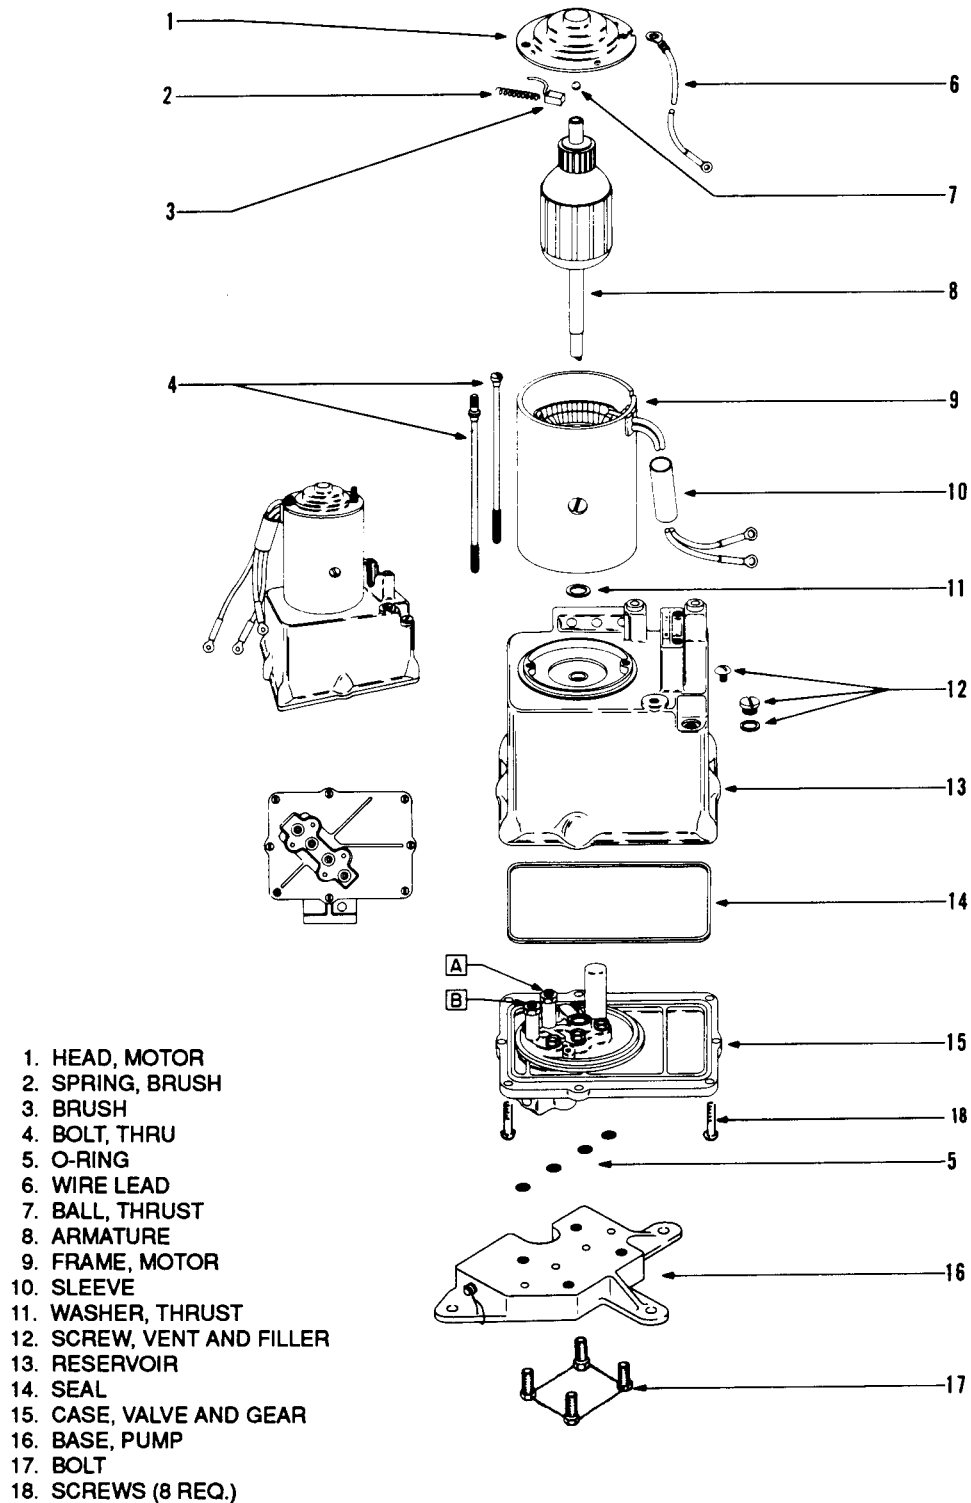

Figure 6-3. Hydraulic Pump/Reservoir, Exploded View (Prestolite)
6-6. DISASSEMBLY OF HYDRAULIC PUMP. (PRESTOLITE) (Refer to Figure 6-3.) After the hydraulic pump has been removed from the airplane, cap or plug all ports and clean the exterior of the pump with a dry type solvent to remove accumulated dust or dirt. To disassemble any one of the three main components of the pump, proceed as follows:
6-8. ASSEMBLY OF HYDRAULIC PUMP. (PRESTOLITE) (Refer to Figure 6-3.)
5. Connect the blue lead to the positive terminal of the power supply. Pump should operate and the high pressure gauge should indicate 2250 +/-250 psi. (Should the pressure be incorrect, adjust valve "A", Figure 6-3, in pump reservoir.)
7. Connect the green lead to the positive terminal of the power supply. Pump should operate in reverse, dropping the high pressure gauge to zero and the low pressure gauge should indicate between 500 to 800 psi. When the green lead is disconnected, both pressure gauges should indicate zero psi. (Should the pressure of 500 to 800 psi be incorrect, adjust valve "B", Figure 6-3, in pump reservoir.)
- b. Position the pump on its mounting flange. Install mounting bolt with washer and tighten. (Refer to Figure 6-3.)